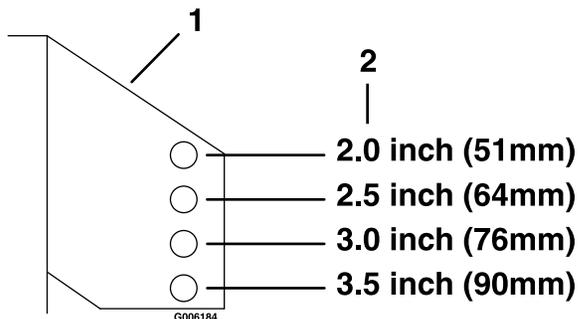

Figure 12
6. Adjust anti-scalp rollers for normal operating conditions. Place rollers in one of the positions shown in Figure 12. Rollers will maintain 3/4 inches (19 mm) clearance to the ground to minimize gouging and roller wear or damage.